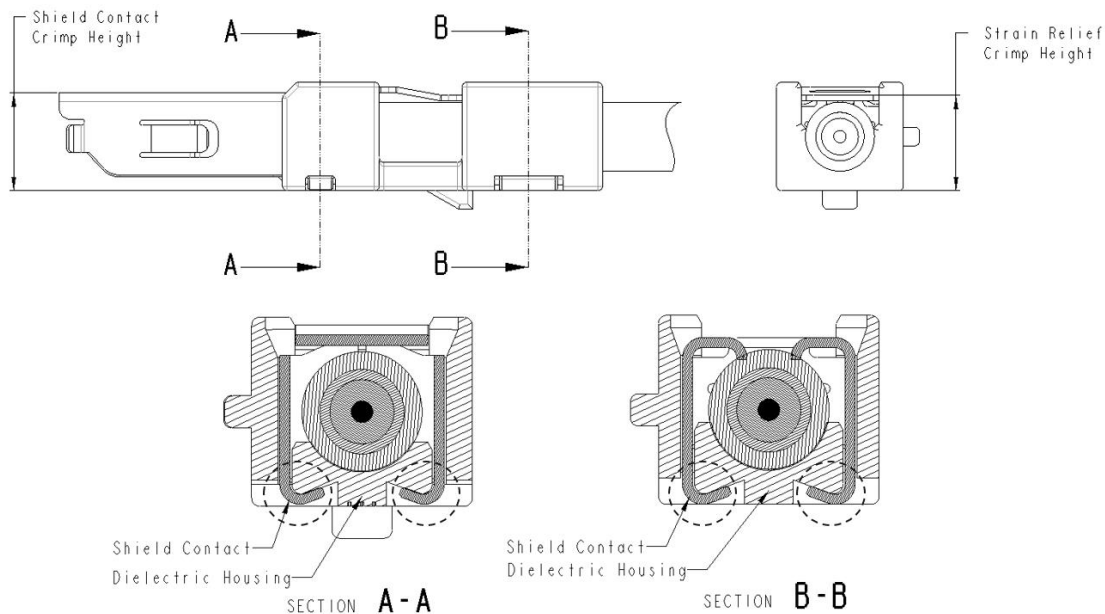

Figure 5
2.3.2 Shield Contact and Strain Relief (See Figure 5)
Shield contact and strain relief must be pressed according to Spec on the jacket of the coaxial cable. After clamping, the shield contact and strain relief should satisfy Figure 5.
Shield contact crimp shape has to be perfect round shape with profile of dielectric forming features in Figure 5. Shield bending edge is not allowed to damage of dielectric housing.